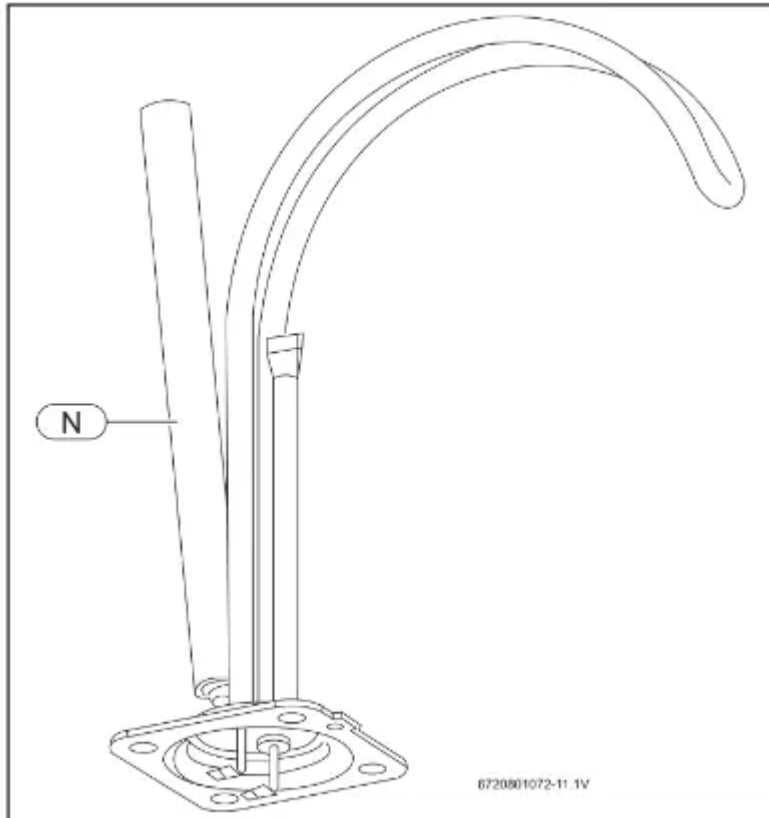

Fig. 12
The purpose of the anode rod ( → Fig. 12, [N]) is to protect the tank against corrosion. It is critical that the anode rod be inspected once a year to determine whether it requires replacement. To access the anode rod, the heating element must be removed (see Section 5.4 Removing the heating element). Upon inspection, the anode rod surface should appear smooth. If the rod surface appears pitted, bumpy, rusty, or if the rod is missing completely, then it must be replaced. To access the anode rod:
- Remove and replace the anode rod (→ Fig. 12 [N]).